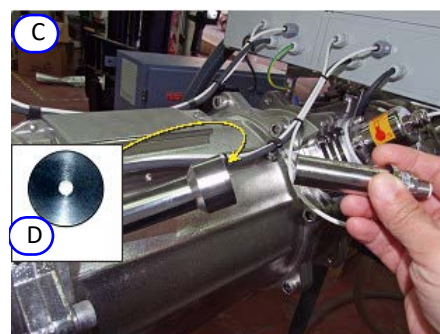

Figure 10-43: Removing a Sensor C 2 (Generic View)
- Step 11.** To re-install a **fixed sensor**, tighten the threaded cap back onto the housing, **Figure 10-43**.